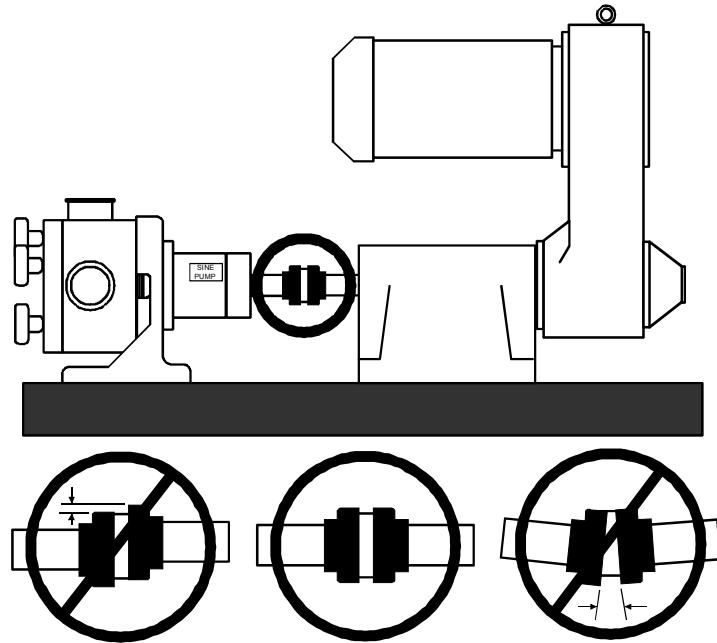

Figure 1 - Alignment
1. Check the coupling alignment between the drive and the pump. This should be done only after the pump, drive and base have been fully anchored. Refer to Figure 1 and the alignment sheet supplied with the coupling, if applicable.